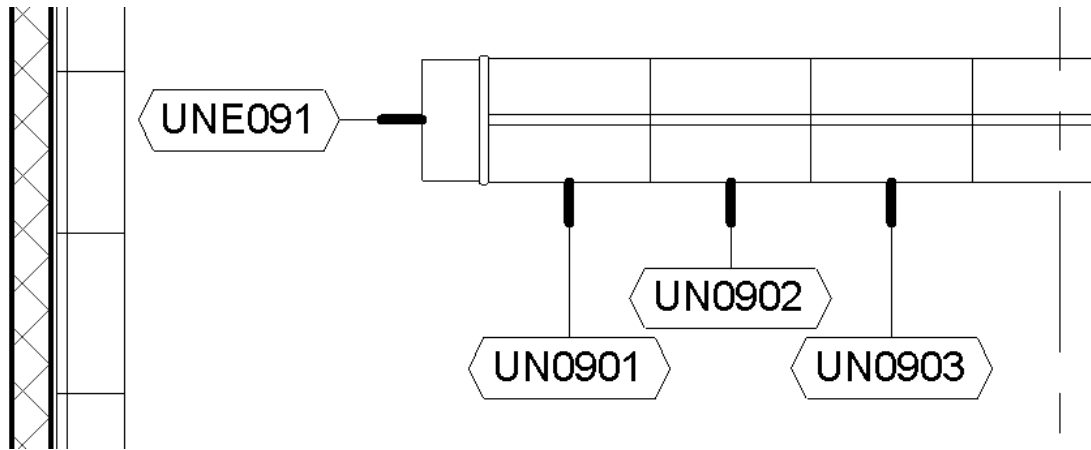

Figure 10—Tags added to the project and reporting the values of shared parameters
10. Using the Line tool, draw the graphics for your tag. Delete the red text note, save the file and then click the Load into Project button to load the tag into our sandbox and test it out (see Figure 10).